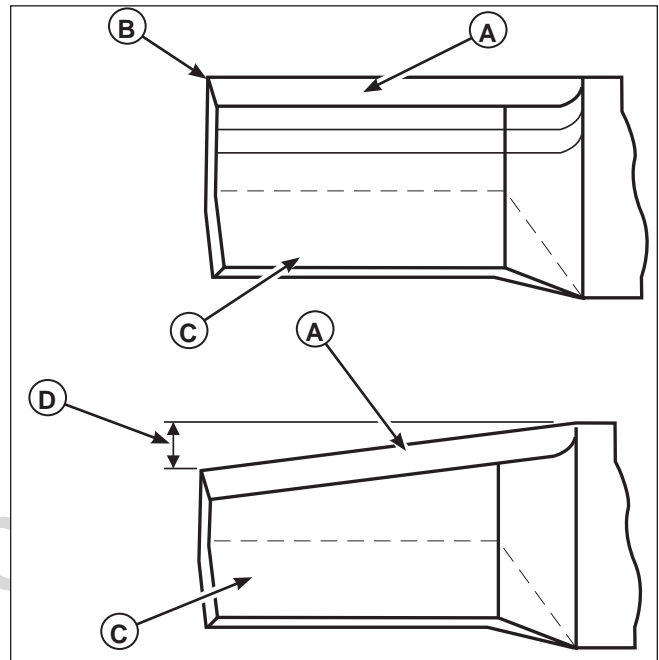

Figure 27. Inspecting the Mower Blade Tips
2. Inspect the mower blade (Figures 27 & 28).
- Has more than .5" (12,7 mm) of the mower blade metal removed from previous sharpening or wear (D, Figure 27).